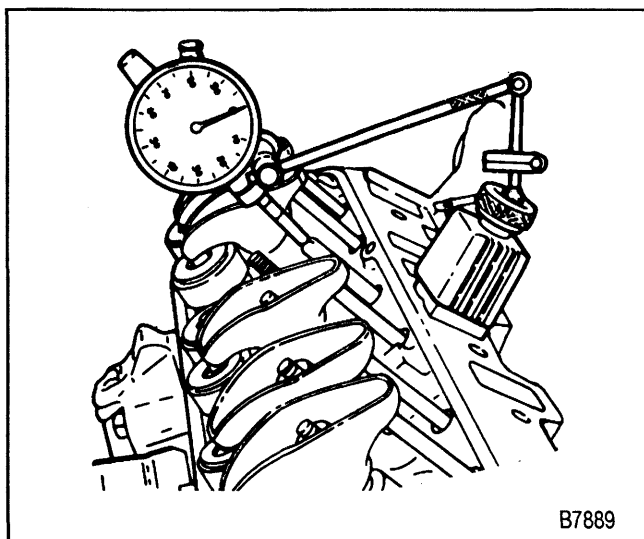

Figure 27—Measuring Camshaft Lobe Lift
2. Refer to figure 27. Position the dial indicator (part of J 8520) so the plunger rests on the pushrod end, as shown. Make sure the pushrod is in the lifter socket.